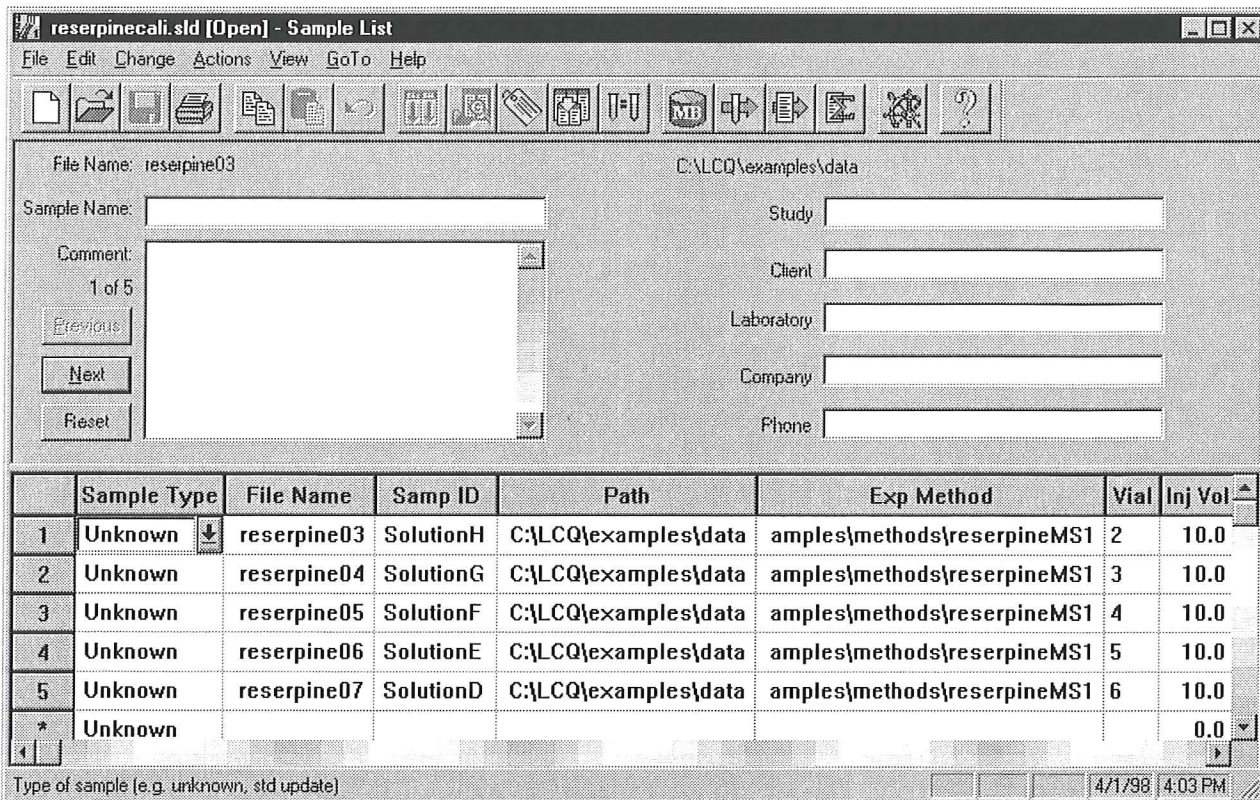

Figure 7-2. Sample List window, showing the Sample List with five calibration standards setup from the New File Template dialog box
Click on **OK**. See Figure 7-2.
- Ensure that the Sample List window displayed on your monitor resembles the one shown in Figure 7-2.
Acquire calibration standard data by analyzing samples using the Sample List *reserpinecali.sld*. (See Figure 7-2.)
Create a Sample List according to the description in the topic: **Building a Sample List**. LCQ requires that, at this point in the process, you identify each of the samples as *Unknown* in the Sample Type column. (Refer to Note located after Figure 7-2.)